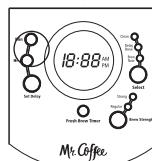

Figure 1
2. Press and hold the HOUR and MINUTE buttons until you reach the current time. The AM or PM indicator is at the right of the display (Figures 1 and 2).